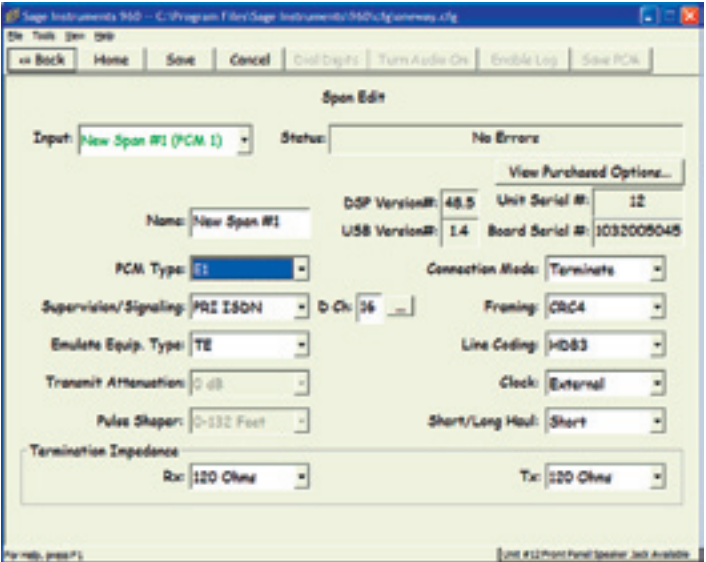

Figure 122
4. Select PCM 2 by highlighting the span, then click on the "Configure Span" button. In the configure span window for PCM 2 change the "Supervision/Signaling" pull down menu from "CAS" to "PRI ISDN". Make sure the "Emulate Equipment Type" pull down menu for PCM2 is set to "NT". For E1 PRI, the screen will look similar to figure 122.